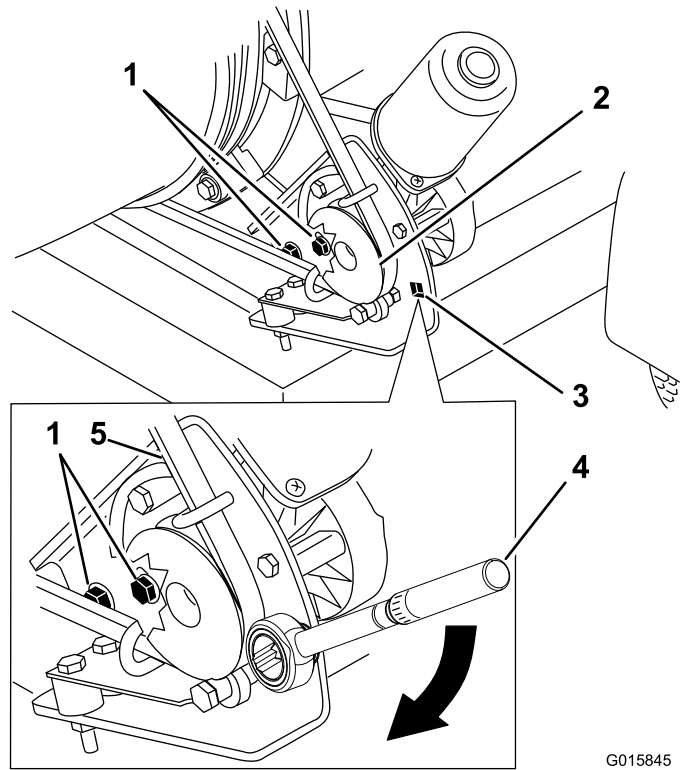

Figure 25
1. Loosen the bolts securing the pulley mounting bracket to the blower frame (Figure 25).
2. Position a torque wrench into the pulley mounting bracket (Figure 25).
3. Pivot the pulley mounting bracket away from the nozzle until the torque wrench reads 22.6 to 26.0 N-m (200 to 230 in-lb) (Figure 25).